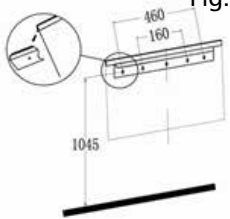

Fig. 4
- For optimum viewing, mark the top four screws fixing positions on wall in accordance with the recommend fixing dimensions- see Fig.4..
- Carefully lift the heater up ensuring that the top rear ledge of heater engages the long wall bracket (see Fig.4 in circle) and is sitting centrally.